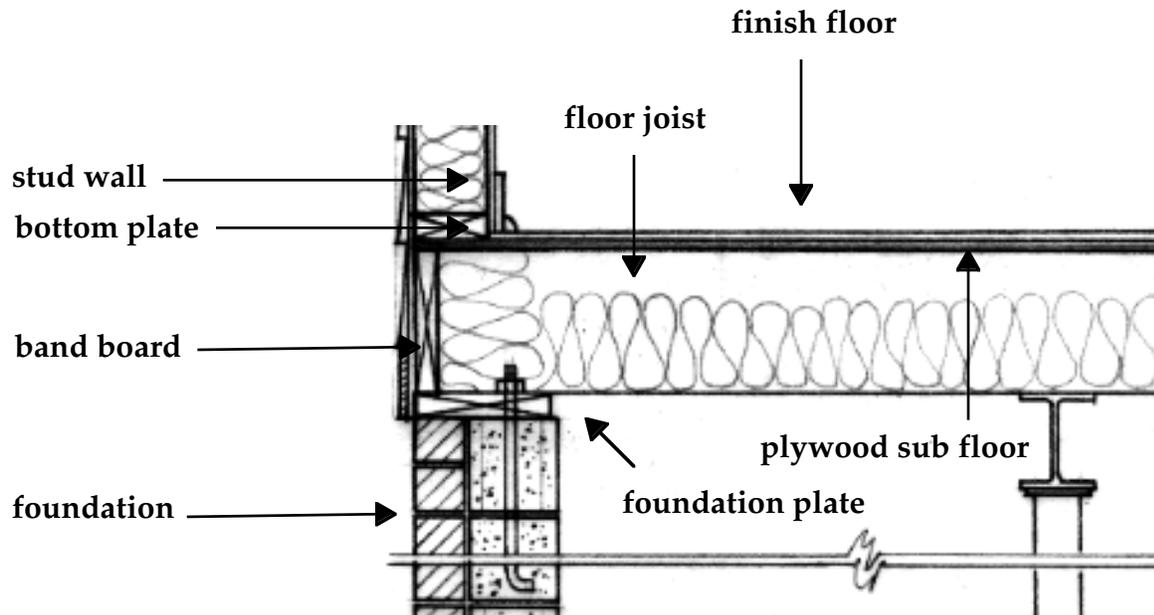

figure 7, 1st deck at foundation
**Foundation plate - (figure 7)** The foundation plate is wooden 2X#'s that cover the top of the foundation wall. I figure the perimeter of the foundation wall and divide it by 16 which gives me the quantity of sixteen foot boards needed. The width of the boards depends on the thickness of the exterior wall. This plate is anchored to the foundation or slab with anchor bolts or straps that are installed in the foundation wall or slab by the mason or concrete contractors.
**Floor joists - Floor Trusses - (figure 7)** Floor joist are wooden 2X#'s that are the floor frame and span the foundation walls. They will sit on the foundation walls and on any beams or interior walls they would cross. Floor trusses are manufactured frameworks that cover greater spans than regular 2X#'s. Your plans will dictate the size and spacing of these joist or floor trusses. Spacing between these joists normally is 16 inches, but structural requirements may make this spacing as little as every 12 inches.